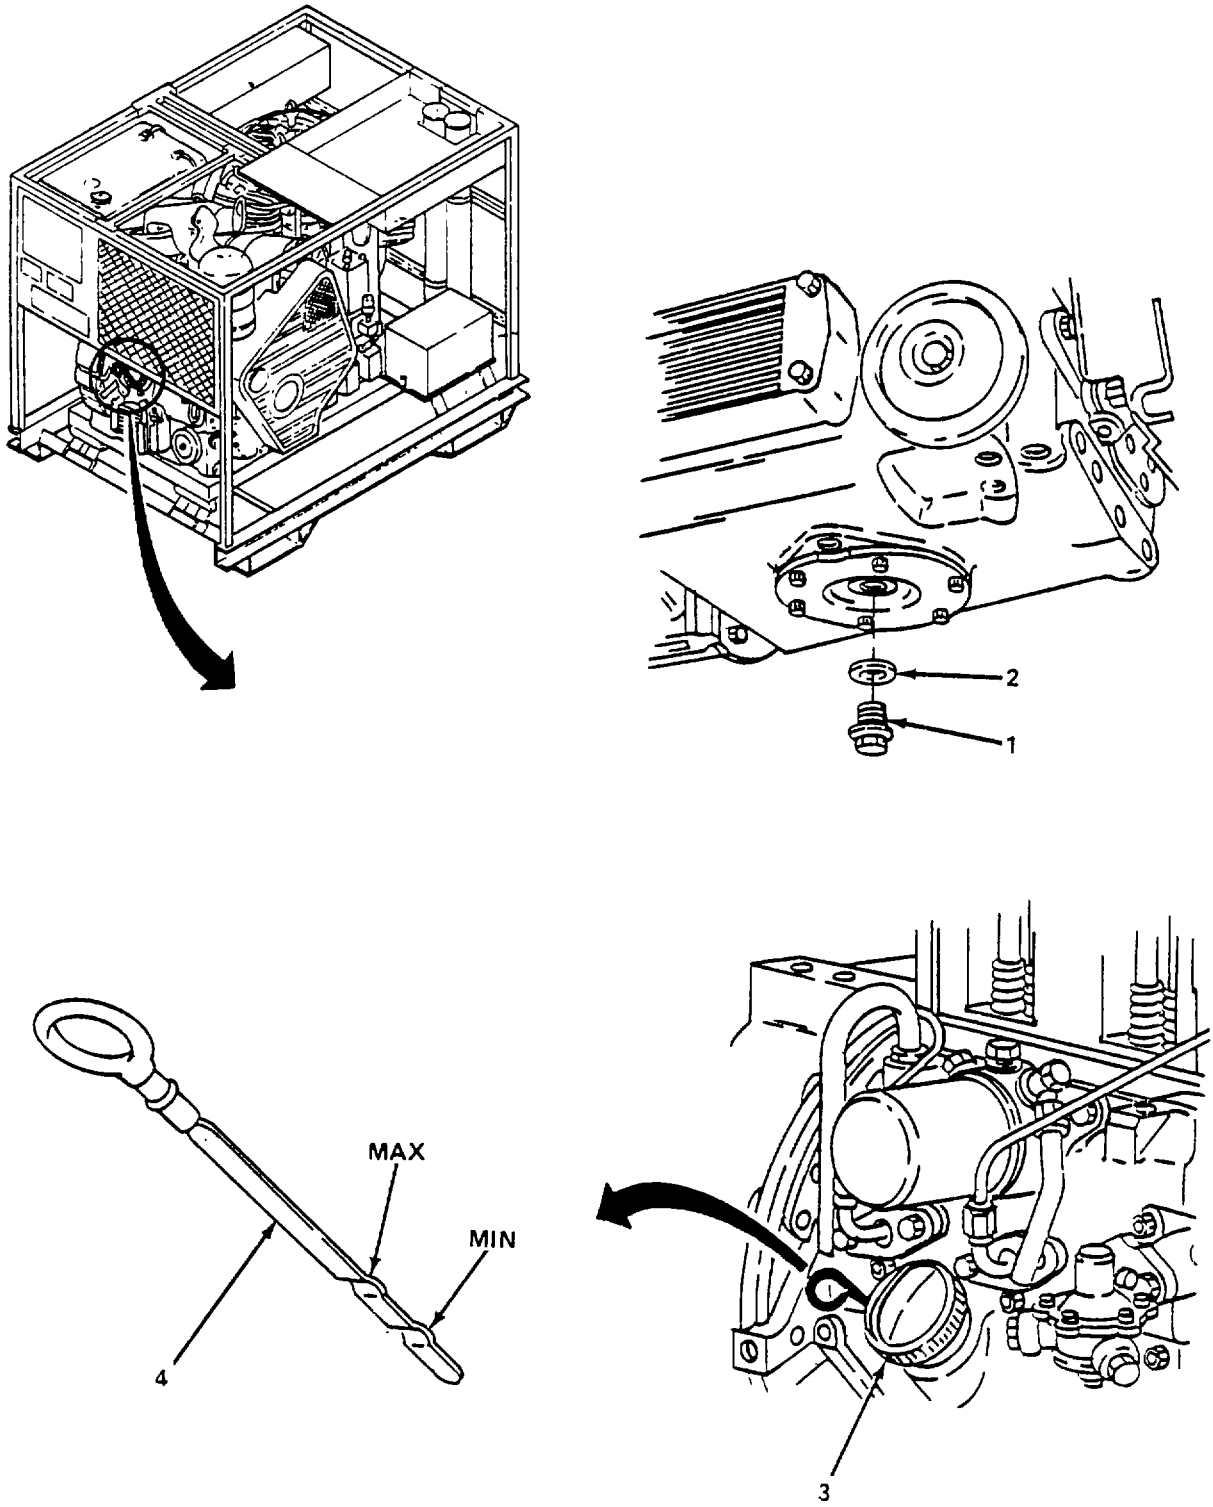
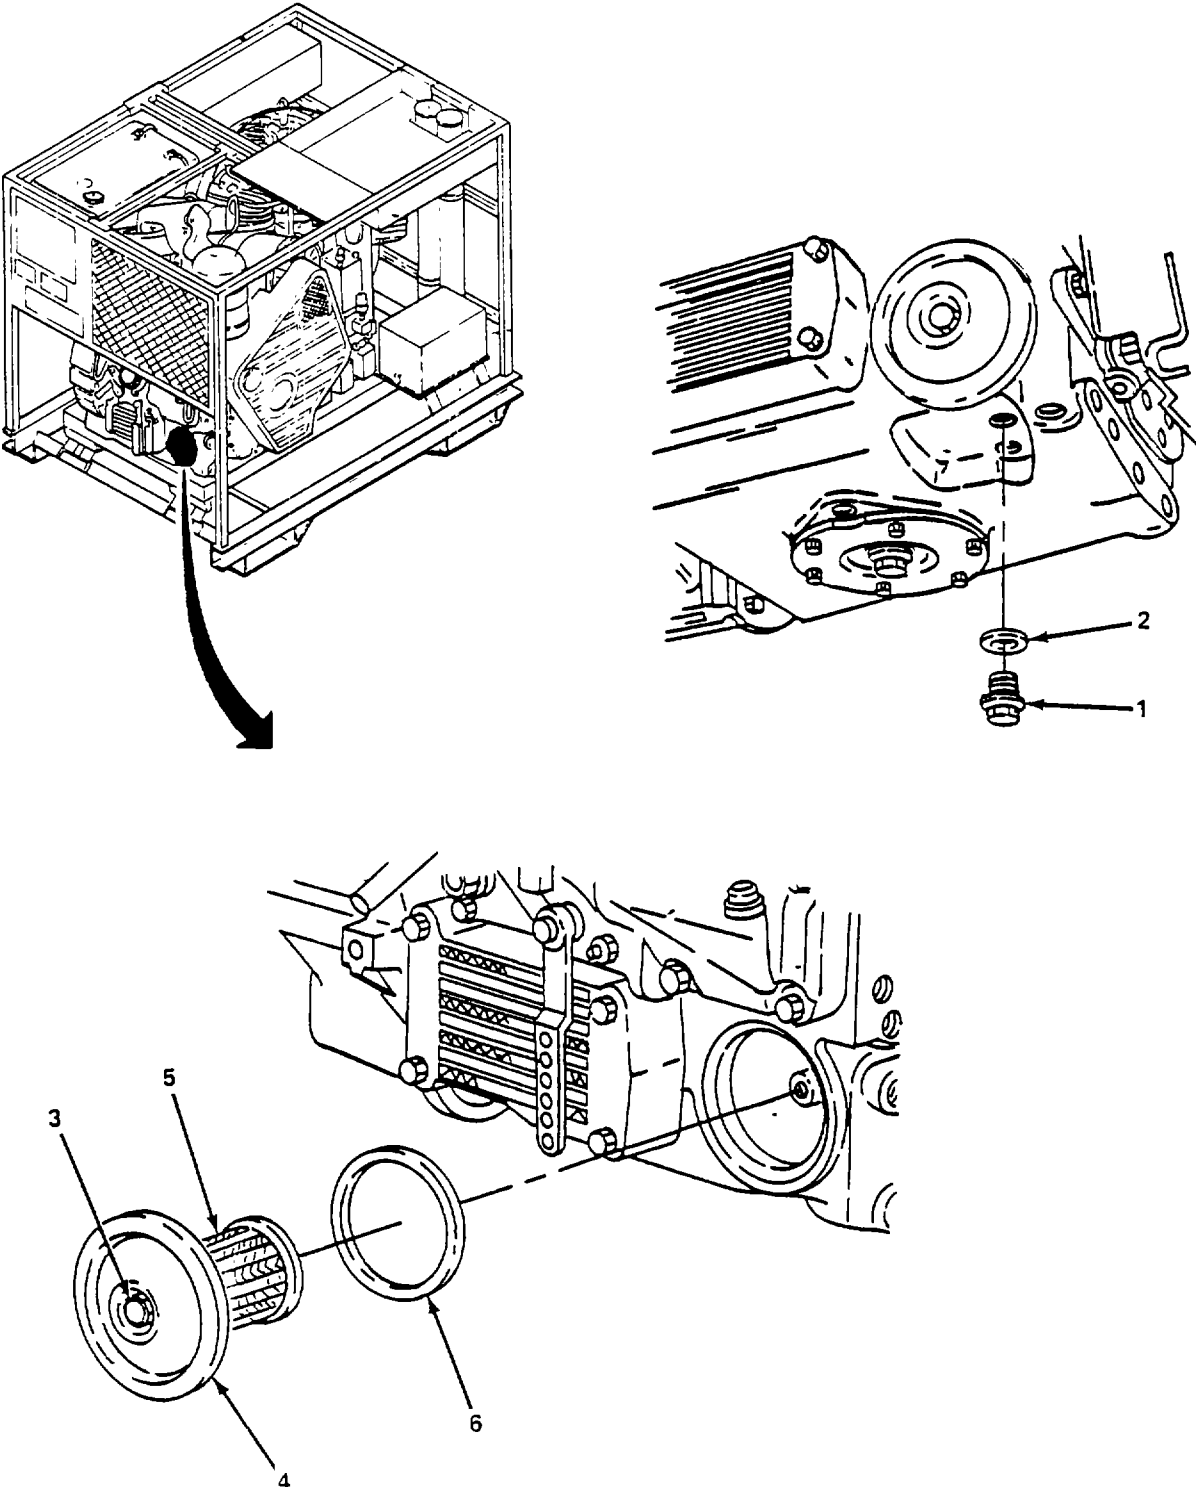

Figure 4-1. Servicing Engine.
Figure 4-2. Servicing Engine Oil Filter.
c. Service. (figure 4-1)
- (1) The crankcase oil level must be checked at eight hour intervals of operation or more often should oil consumption increase.
- (2) A new or reconditioned engine shall have the oil changed after 25 hours of operation. Thereafter, the interval is lengthened to 250 hours.
- (3) Before draining the engine crankcase, operate the engine until the ENGINE HEAD TEMPERATURE gage on instrument panel reaches a minimum of 110°F (46°C) to ensure suspension and drainage of particles.
- (4) Stop engine. Place container under drain plug (1) located in the center bottom of engine and remove drain plug (1) and gasket (2).
- (5) After oil has drained completely, install drain plug (1) and gasket (2).
- (6) Refer to paragraph d. below and service the oil filter.
- (7) Remove the engine oil filter cap (3).
- (8) Fill crankcase with oil to the top mark on the dipstick (4).
- (9) Operate the engine until the ENGINE HEAD TEMPERATURE gage reaches 110°F (46°C).
- (10) Stop engine, let stand for five minutes, then check oil level and add oil as necessary to bring it to the top mark on the dipstick (4).
- (11) Inspect the engine for oil leaks.
d. Oil Filter Service. (figure 4-2)
- (1) Thoroughly clean the oil filter casing and surrounding areas. Place container under oil filter drain plug (1), remove drain plug (1) and gasket (2) and let oil drain completely.
- (2) Install oil filter drain plug (1) and gasket (2).
- (3) Remove screw (3) on oil filter, remove filter bowl (4), strainer (5), and seal (6).
- (4) Wash filter bowl (4), strainer (5) and seal (6) in clean diesel fuel.
- (5) Install seal (6), strainer (5), filter bowl (4), and screw (3).